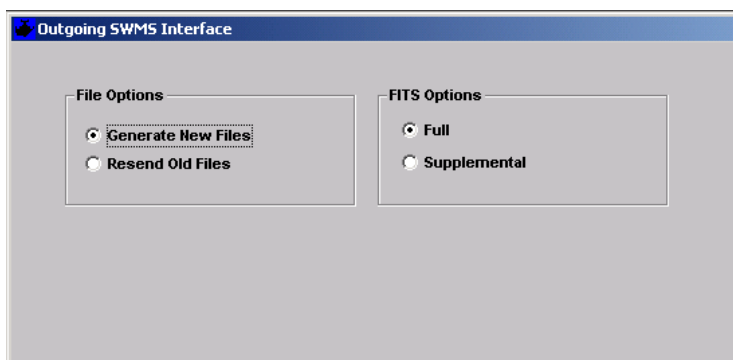

Figure 4.21
- 4.6.1 On the *Outgoing SWMS Interface* window (Figure 4.21), with *Generate New Files* selected, the user must select either *Full* or *Supplemental FITS* options.